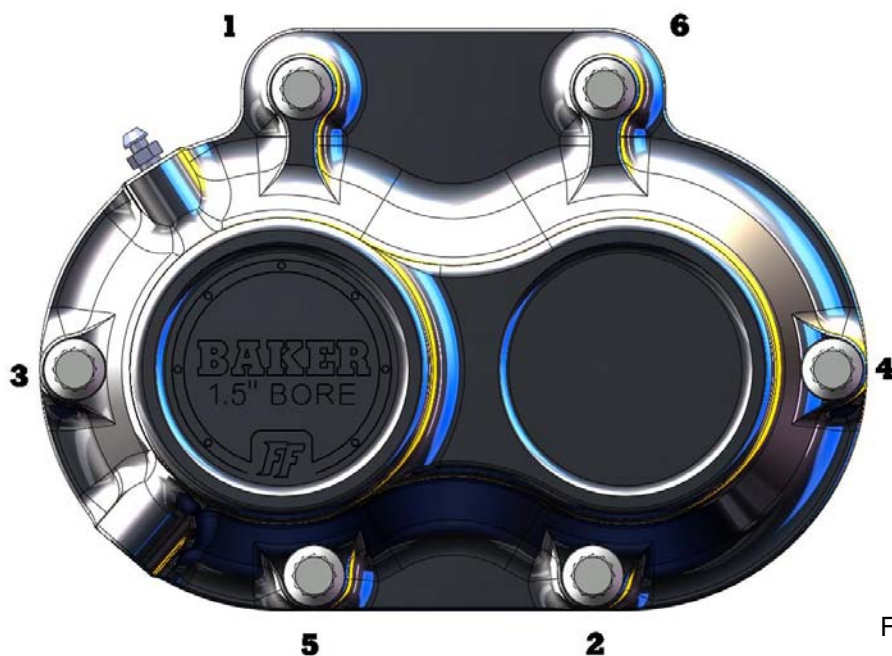

Figure 2
- 6) Using the provided ARP™ Fasteners, torque the side cover down to 130 in-lbs using 'Blue' Thread Lock while referring to the torque sequence diagram below. (Figure 2)